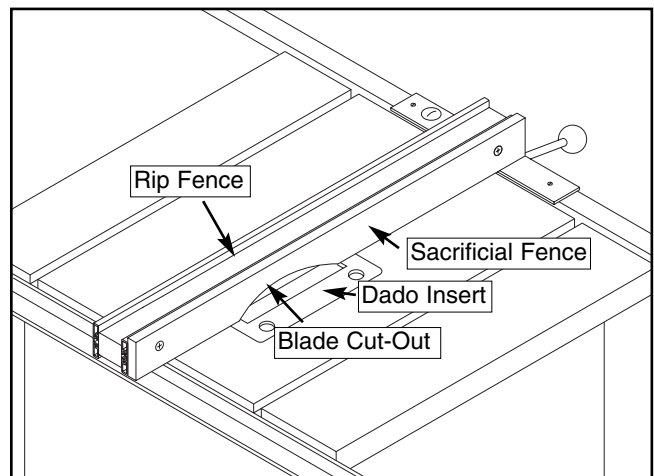

Figure 40. Sacrificial fence.
1. Rabbet cutting on the edge of a piece of stock requires the use of a sacrificial fence attachment as shown in **Figure 40**. The sacrificial fence can be made from a piece of wood that is as long as the metal fence and $\frac{3}{4}$ " thick. Once the sacrificial fence has been cut, attach it to the metal fence with screws or clamps, making sure they are all secure and tight.